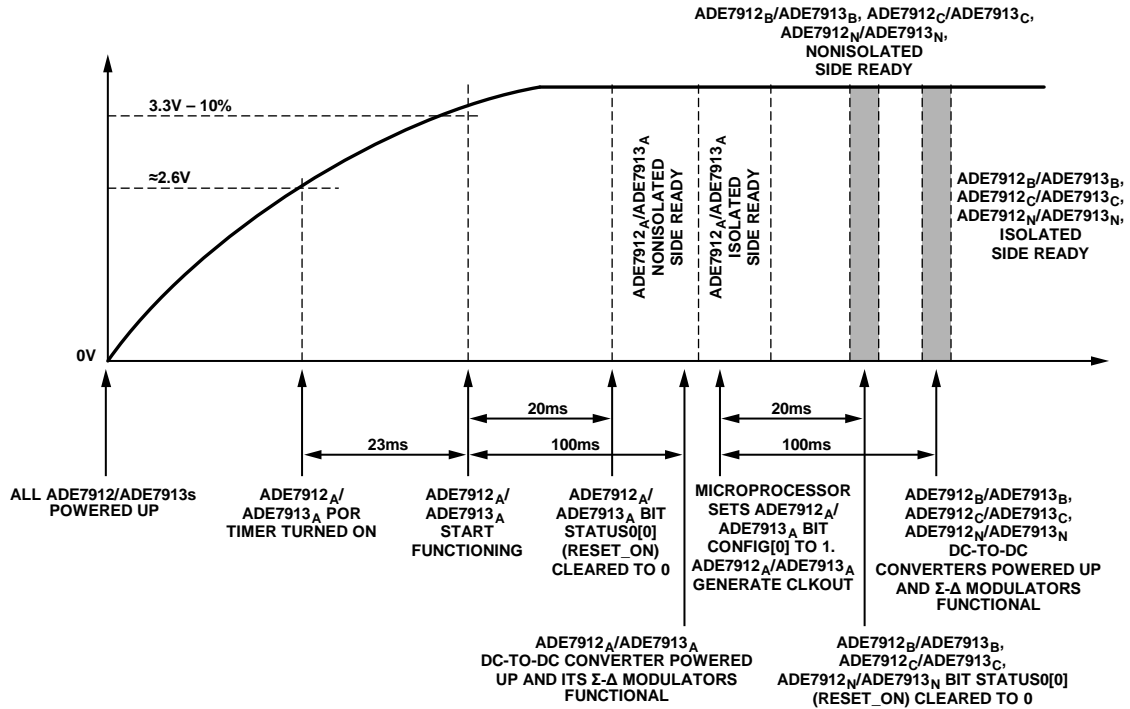

Figure 52. Power-Up Procedure for Systems with Multiple ADE7912/ADE7913 Devices; Only Phase A ADE7912/ADE7913 Are Clocked from a Crystal
For the polyphase energy meters shown in Figure 34, Figure 36, and Figure 37, in which one single crystal is used, the power-up procedure is as follows (see Figure 52):
1. Supply VDD to the ADE7912/ADE7913 devices. To ensure that the Phase A ADE7912/ADE7913 (labeled ADE7912_A/ADE7913_A in Figure 52) device starts functioning correctly, the supply must reach 3.3 V – 10% in less than 23 ms from approximately a 2.6 V level. The ADE7912_A/ADE7913_A device is clocked by the 4.096 MHz crystal and starts functioning. The other ADE7912/ADE7913 devices are not clocked yet.
8. Initialize the CONFIG register of all remaining ADE7912/ADE7913 devices. Select one ADE7912/ADE7913 device (Phase C ADE7912/ADE7913 in Figure 34, Figure 36, and Figure 37 examples; labeled ADE7912_C/ADE7913_C in Figure 52) and connect its CLKOUT/DREADY pin to an external interrupt I/O pin of the microcontroller. ADE7912_C/ADE7913_C must have Bit 0 (CLKOUT_EN) in the CONFIG register left at the default value of 0 to use the DREADY functionality of the CLKOUT/DREADY pin.